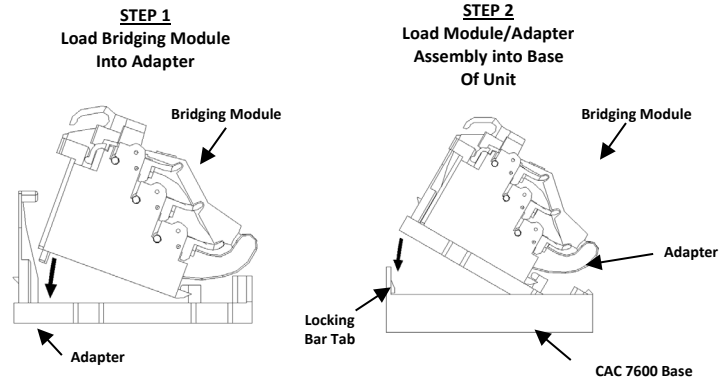

Figure 4
4. Snap the bridging module into the adapter, then into the base as shown in Figure 4.